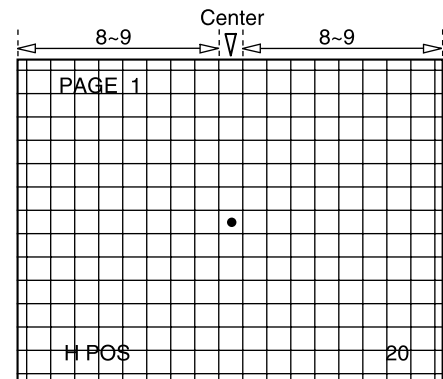

Fig.1-1
- Use the volume keys on the jig remote controller to adjust the dot mark in the center of crosshatch screen to the exact centering position by allocating an equal number of squares on the left and right side of the dot. (Fig. 1-1)